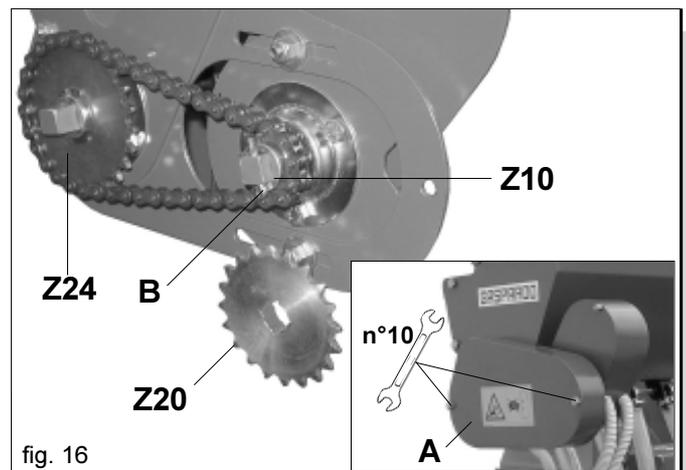

fig. 16
An additional gear (Z20) is provided, to replace the standard gear Z10 (Fig. 16), for use with large quantities of seed.
- Slacken the screws of the gearbox casing (A Fig. 16) with wrench n°10 and take it off;
- Take out the split pin (B) and replace the gear with the one supplied;